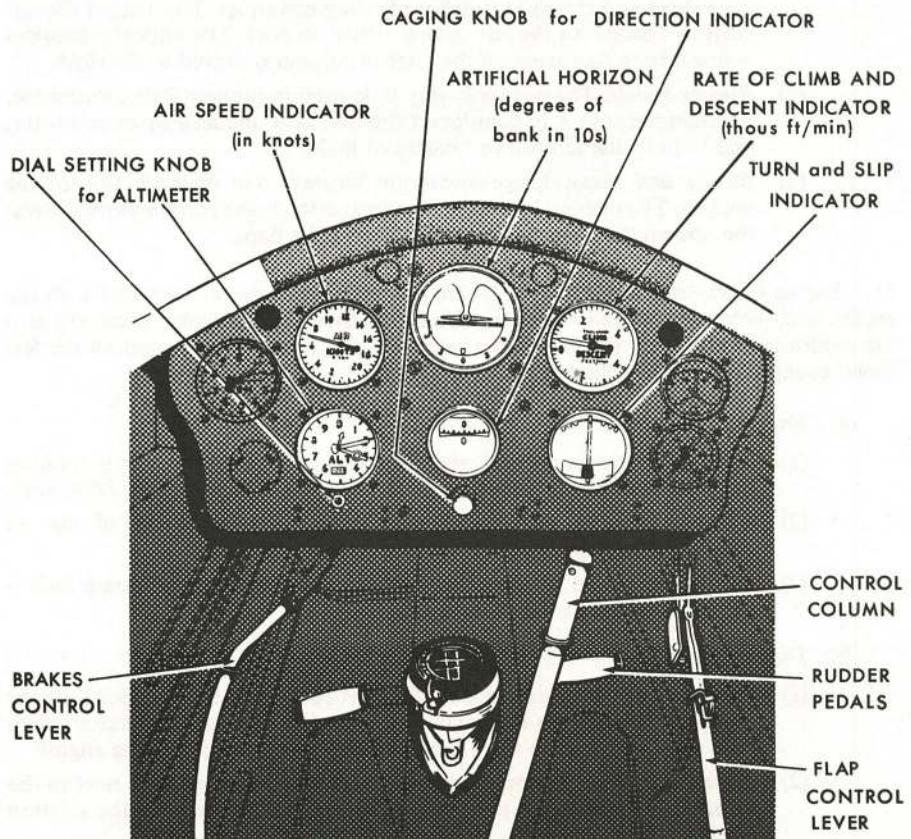

Fig 10 Flying Instruments and Controls
10. **Flying Instruments and Controls.** There are *six basic instruments* and *three controls* concerned with the aircraft itself and its flight through the air. These are illustrated in Fig 10 and discussed below.